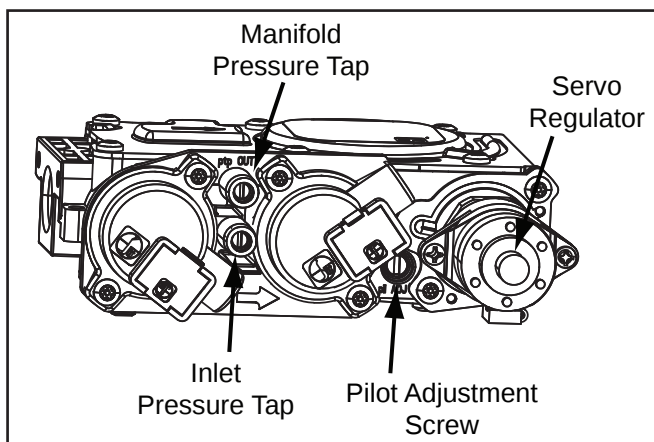

Figure 41: Valve Details.
The pressure taps are located on the top right of the valve shown in Figure 41.
- 1a. Follow steps 1-4 in REMOVING VALVE COVER - MAINTENANCE AND SERVICE in order to gain access to the valve from above. The pilot adjustment screw can be found in Figure 41.